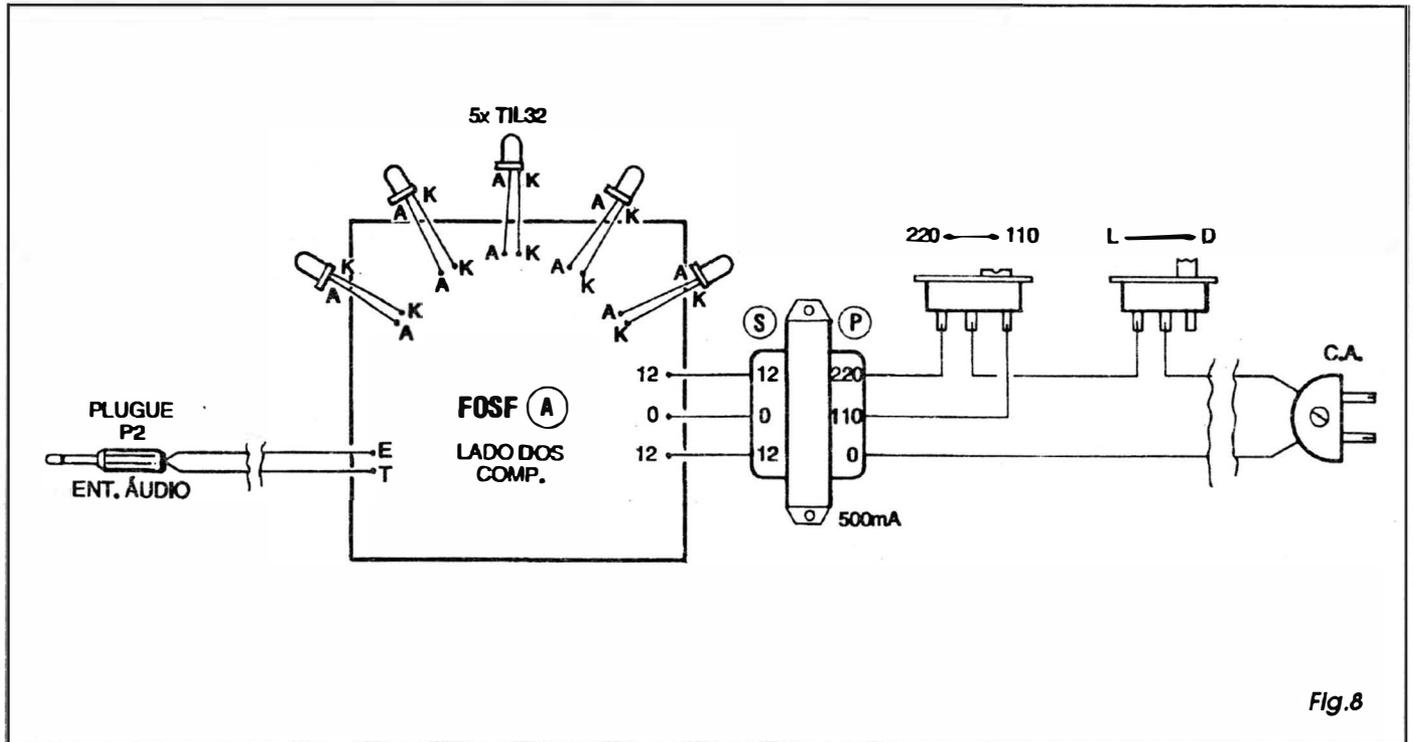

Fig. 8
**- FIG. 8 - CONEXÕES EXTERNAS À PLACA (TRANSMISSOR - A)** - A placa do circuito transmissor dos **FOSF** ain-